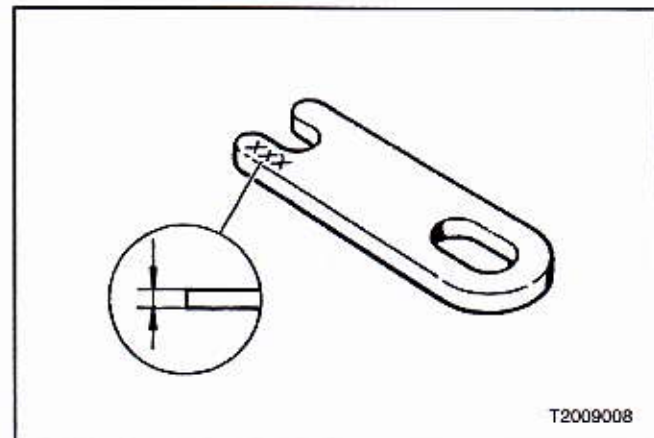

Figure 441 — Engine Compression Brake Adjustment Shim
4. If clearance is not within specification, adjust the clearance as required, using shims (Figure 441) placed on top of the valve yoke (bridge).
4. If clearance is not within specification, adjust the clearance as follows, using shims (Figure 441) placed on top of the valve yoke (bridge).